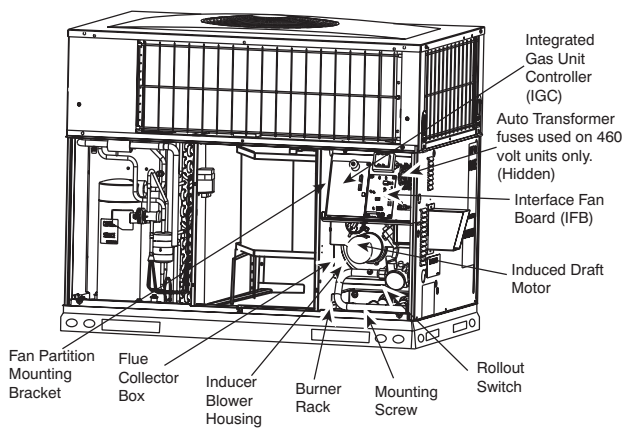

Fig. 19 - Blower Housing and Flue Collector Box
Unit is equipped with a direct spark ignition 100 percent lockout system. Ignition module (IGC) is located in the control box (See Fig. 19). Module contains a self-diagnostic LED. During servicing, refer to label diagram or Table 5 in these instructions for LED interpretation.
5. Remove fan partition mounting bracket (2 screws located on the left side of control compartment on the fan partition panel). Slide bracket forward, bottom first, to remove (See Fig. 19).
7. Remove the mounting screw that attaches the burner rack to the unit base (See Fig. 19).
8. Partially slide the burner rack out of the unit (see Fig. 19 and 22). Remove ignitor and sensor wires at the burner assembly. Remove rollout switch wires.